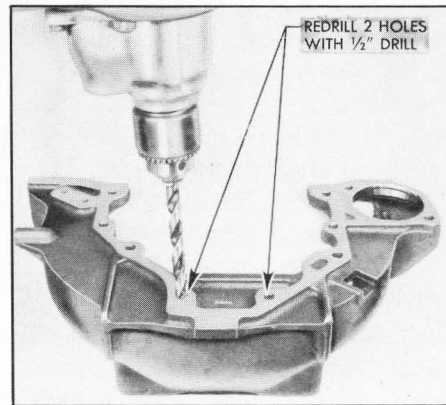

Figure 2-50—Enlarging Bolt Holes in Housing
2. Drill out the two upper bolt holes in flywheel housing and the four bolt holes in crankcase flange with a $\frac{1}{2}$ " drill. See figures 2-50 and 2-51.